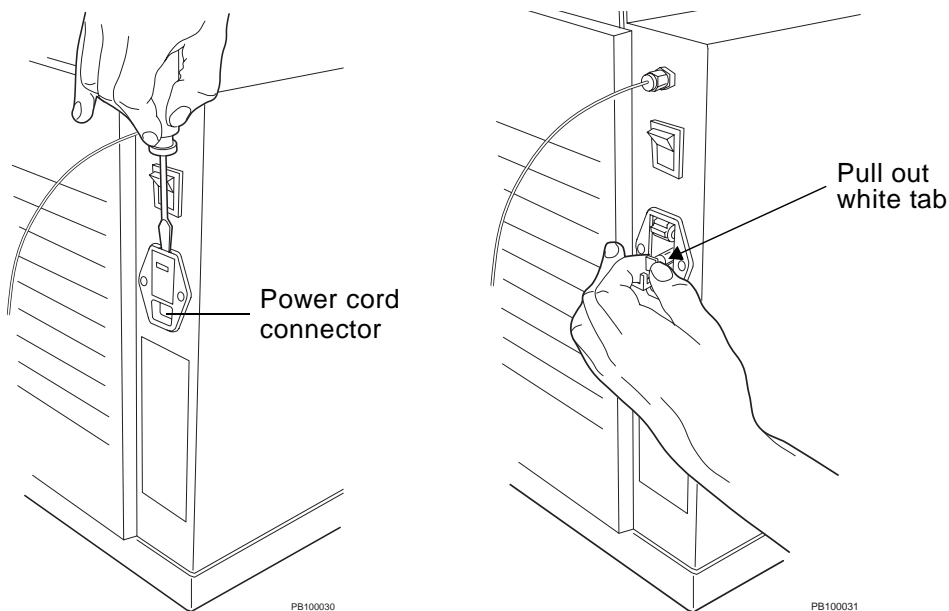

Figure 9-1 Removing the Voltage Selector Cover and Removing the Fuse Block
3. Pry out the voltage selector cover using a small flat-blade screwdriver (Figure 9-1).
5. Pull out on the white tab to remove the fuse block (Figure 9-1).